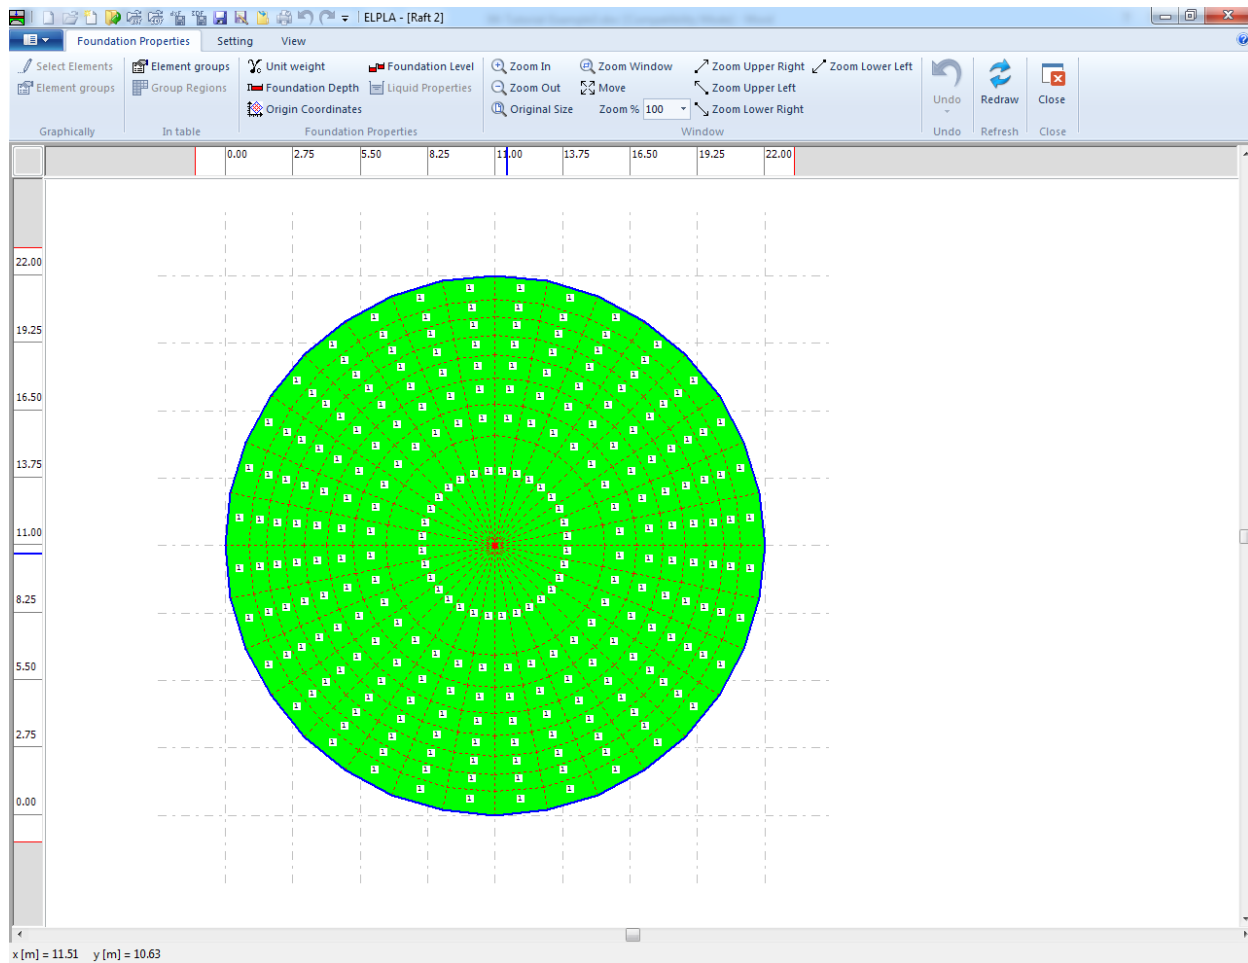
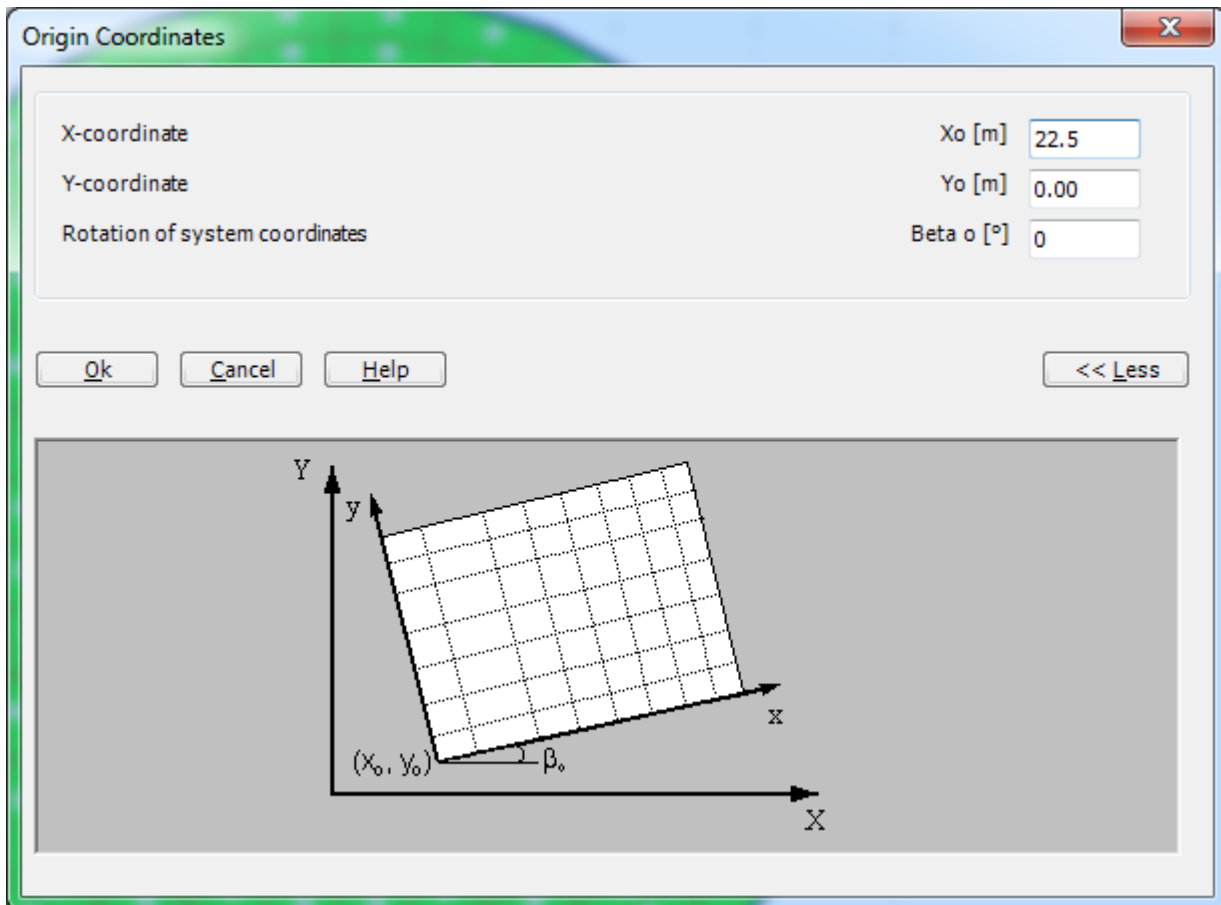

Figure 3.29 "Foundation Properties" Window
Figure 3.30 "Origin Coordinates" dialog box
To modify the origin coordinates of raft 2, choose "Foundation Properties" command from "Data" Tab. The following Window in Figure 3.29 appears.
- Choose "Origin Coordinates" command from "Foundation properties" menu in Figure 3.29. The following dialog box in Figure 3.30 appears
- Choose "Save" command from "File" menu in Figure 3.29 to save the foundation properties
- Choose "Close" command from "File" menu in Figure 3.29 to close the "Foundation Properties" Window and return to the main Window